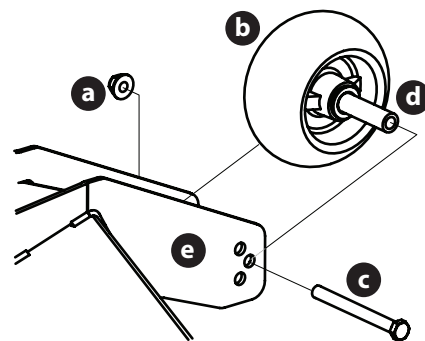

Fig. 32
2. Remove the lock nut (a) securing one of the front gauge wheels (b) to the deck. Remove the front gauge wheel (b), hex screw (c) and spacer (d) (Fig. 32).
3. Insert the hex screw (c) into one of three index holes in the front gauge wheel bracket (e) that will give the front gauge wheel (b) a 1/4-1/2" (6.4 to 12.7 mm) clearance with the ground (Fig. 32 on page 24).
4. Note the index hole of the just adjusted front gauge wheel (b) and adjust the other front gauge wheel (b) into the respective index hole of the other front gauge wheel bracket (e) (Fig. 32 on page 24).